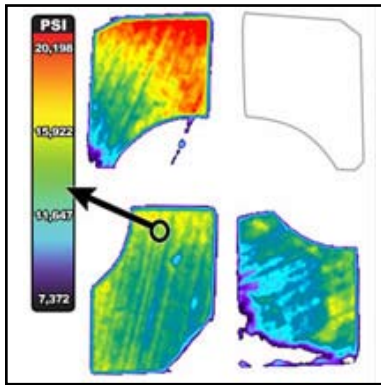

Figure 4
•Graenert and Eeles also analyzed the dies’ outer four bumper blocks (shown in **Figure 4**), the principal indicators of die parallelism. The film revealed detailed data about differences in pressures across the small sections of bumper block, unlike traditional lead check distance-only measurements.